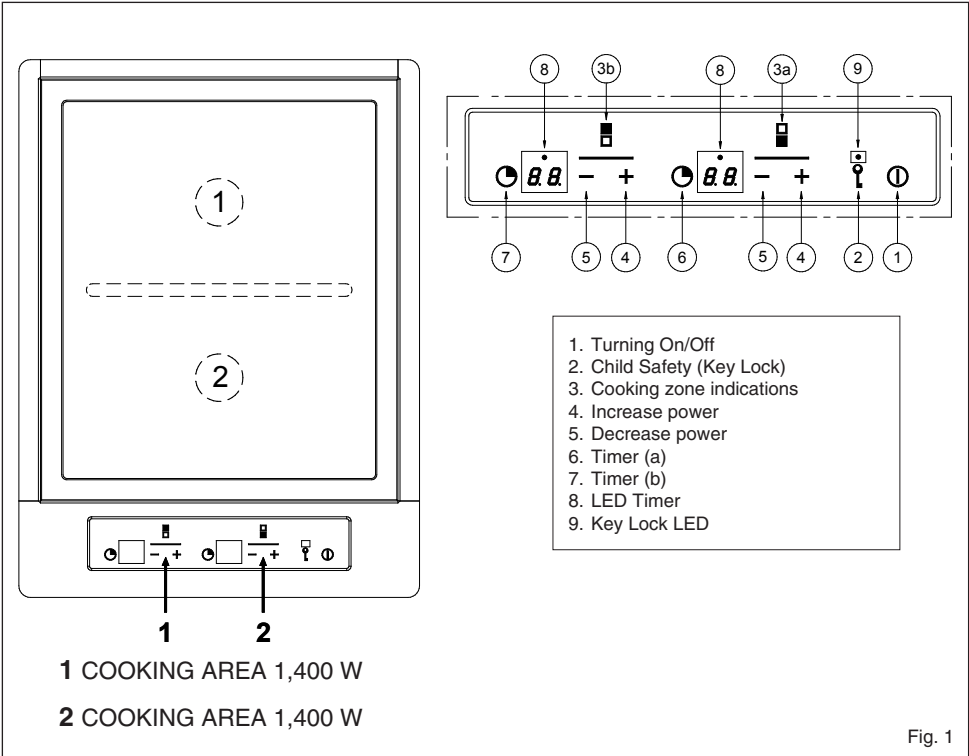

Fig. 1
- The legible power level setting (see Fig. 1, pos. 8) allows keeping the desired temperature constant. In this way, overheating dishes is avoided, which is good for low-fat cooking, which preserves the nutrient content of foods.
On/off of the Touch Control (Fig. 1)
The cooking and power levels of the cooking zones are shown on a display (Fig. 1, pos. 8).